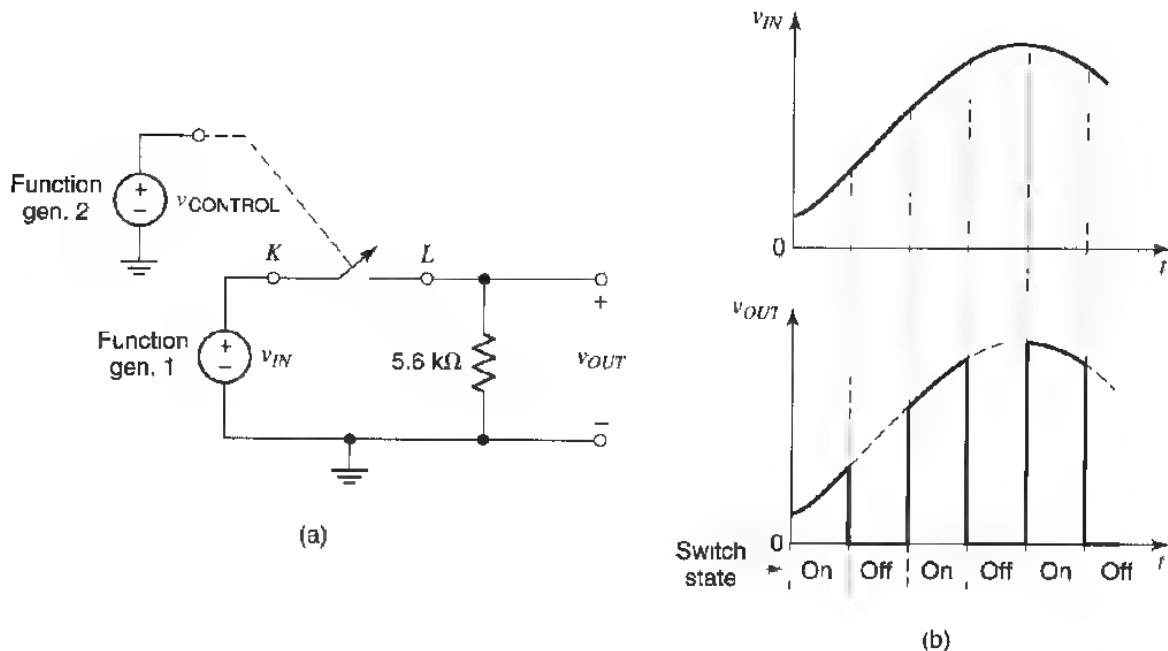

Fig. 8
15. The circuit in Fig. 8(a) is called a *chopper*, and is used in communications and instrumentation. When the switch is closed, the output is connected to the input and v_{OUT} is
equal to v_{IN} ; when the switch is open, the output is disconnected from the input and v_{OUT} equals zero. This operation is illustrated in Fig. 8(b).
16. Now connect the circuit of Fig. 8(a), using the values given in the previous step. Be sure the power supplies are connected as has been shown in Fig. 6(a) and are turned on. You will need two function generators. Use the scope to adjust the generator that provides the control voltage, so that it is a 10 kHz square wave with values -2 V and 2 V at its peaks and bottoms, respectively (if your generator does not provide such large values, smaller values can be tried). Then, use the scope's channel 1 to observe the input voltage (a 1 kHz sinusoidal voltage with a 1 V amplitude) and channel 2 to observe the output voltage. Trigger from channel 1. You will need to adjust *slowly and very carefully* the frequency of the control voltage generator to get a stable display. This adjustment may be tricky. Verify that the output waveform is as expected in step 15.